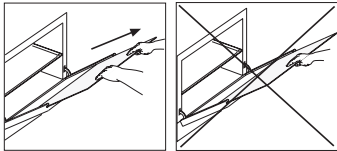
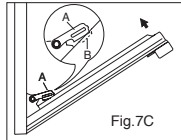

Fig.7A
Fig.7C
with the door in a semi-open position, use both hands to remove the glass as shown in figures 7A.
4) shut the oven door slowly until it reaches hooks "A", making sure these are locked into slots "B" of the oven door, as shown in fig. 7C. (Only where present, remove the inside door glass of the oven, see fig. 7A).